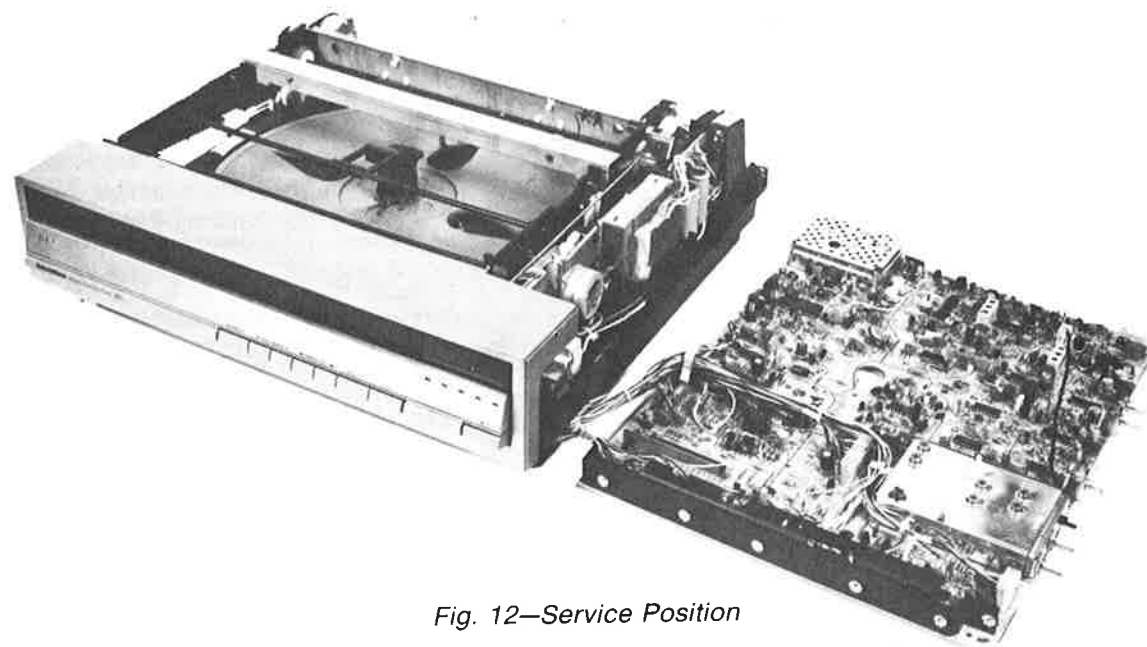

Fig. 12—Service Position
6. Place instrument and circuit board in upright position (Fig. 12), reinstall receiver spindle assembly and reconnect front panel flex cable to flex cable connector. Instrument is now in operational service position.